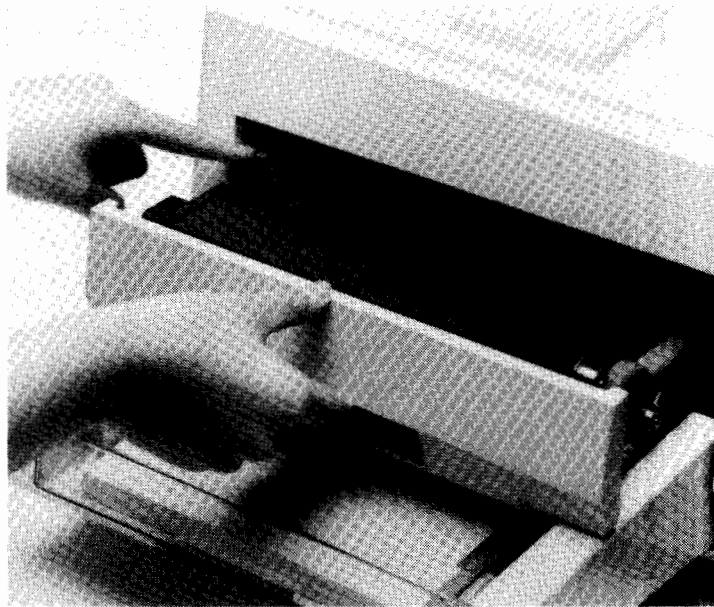

Figure 4-27. Removing Development Unit
- b. Remove the development unit by pushing down the green unlocking lever and pulling out the development unit (figure 4-27).